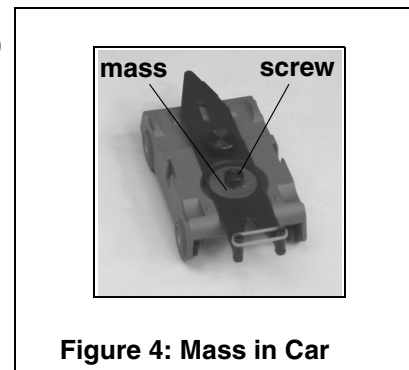

Figure 4: Mass in Car
2. With the small screw provided with the car, secure the small masses in the tray on top of the bumper (Figure 4.)